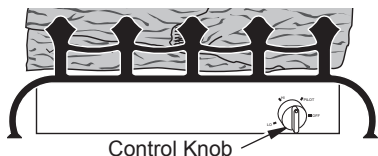

Figure 27 - Control Knob and Ignitor Button Location
- Press in control knob and turn counterclockwise ↶ to the PILOT position (see Figure 27). The ignitor will spark once. Keep control knob pressed in for 5 seconds. If control knob does not pop up when released, contact a qualified service person or gas supplier for repairs.